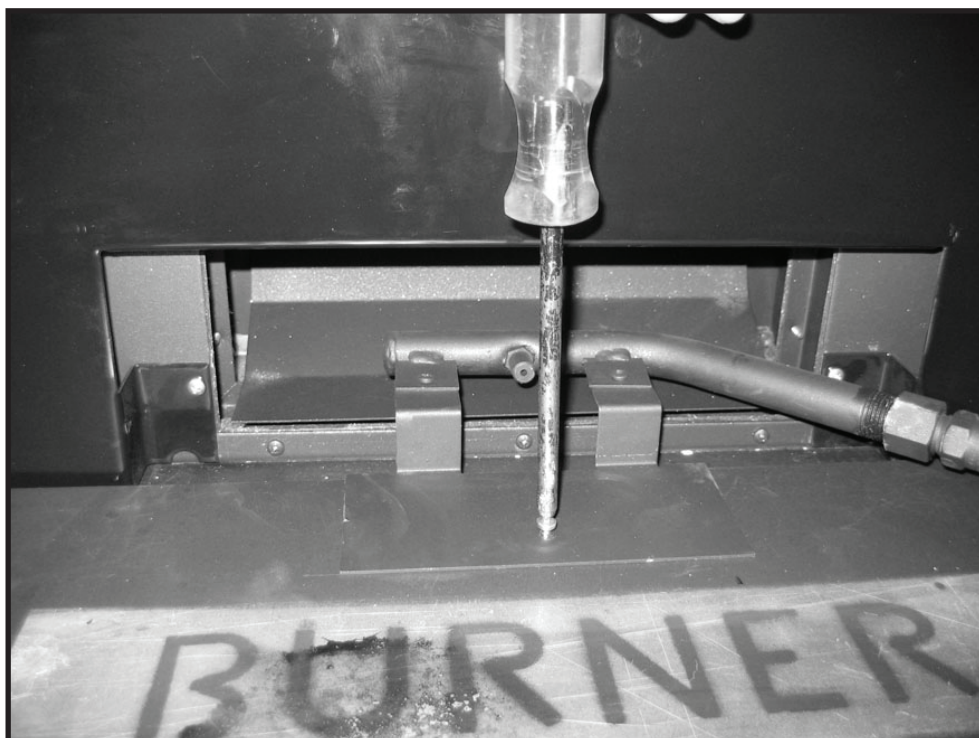

Figure 4: Attaching manifold bracket.
3. Attach the manifold bracket to the floor shield in the bottom of the firebox with one screw (Figure 4).